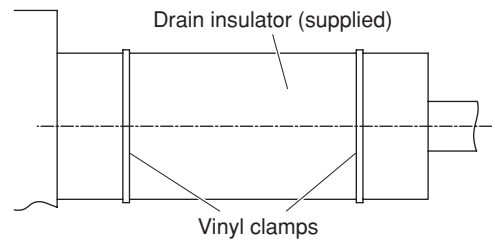

Fig. 3-7
(2) After checking the drainage, wrap the supplied packing and drain pipe insulator around the pipe. (Fig. 3-7)